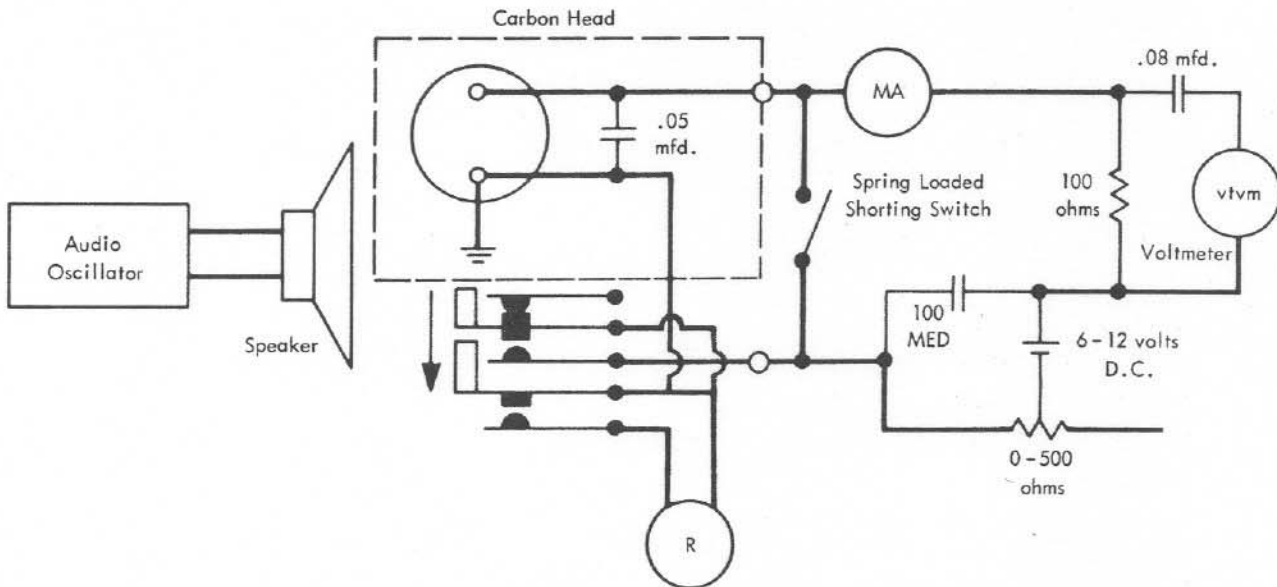

FIGURE 2 - Test set-up and wiring diagram
8. Test Procedure. (See Figure 2)
10. Check of Microphone Output. The best procedure for testing the microphone is to compare its output with one known to be operating properly, using the test set-up shown in Figure 2. Check the output voltage as follows:
11. Check of Operation. This test requires the use of an audio oscillator and speaker as shown in Figure 2.
- a. Connect a test microphone as shown in Fig. 2 and adjust current as in step a. of the output test.